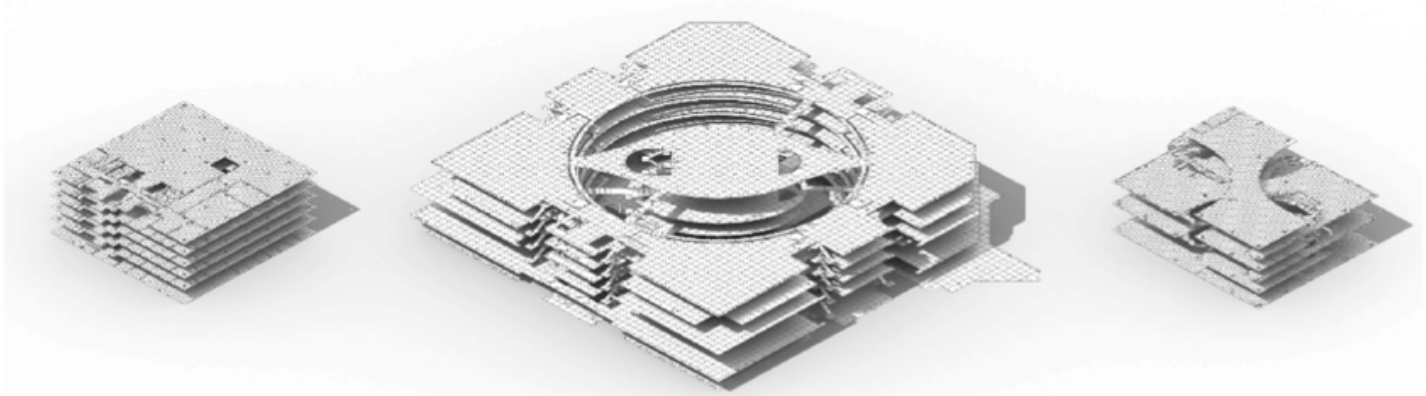

Figure 3: Extracted analysis meshes of the three buildings: the “OSRAM,” the BMW Innovation Center, and the Merck Innovation Center. Reprinted with permission.
4. *Figure 3:* see image reference #3.